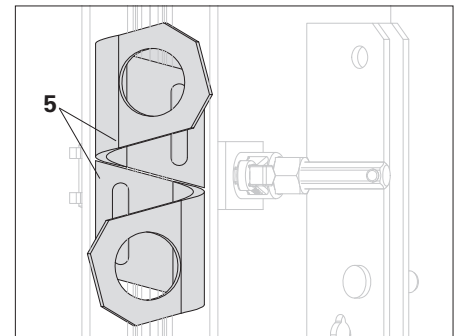

Fig. A4.05
5. Bring together the two halves with help of the pre-centerings (5). (Fig. A4.05)